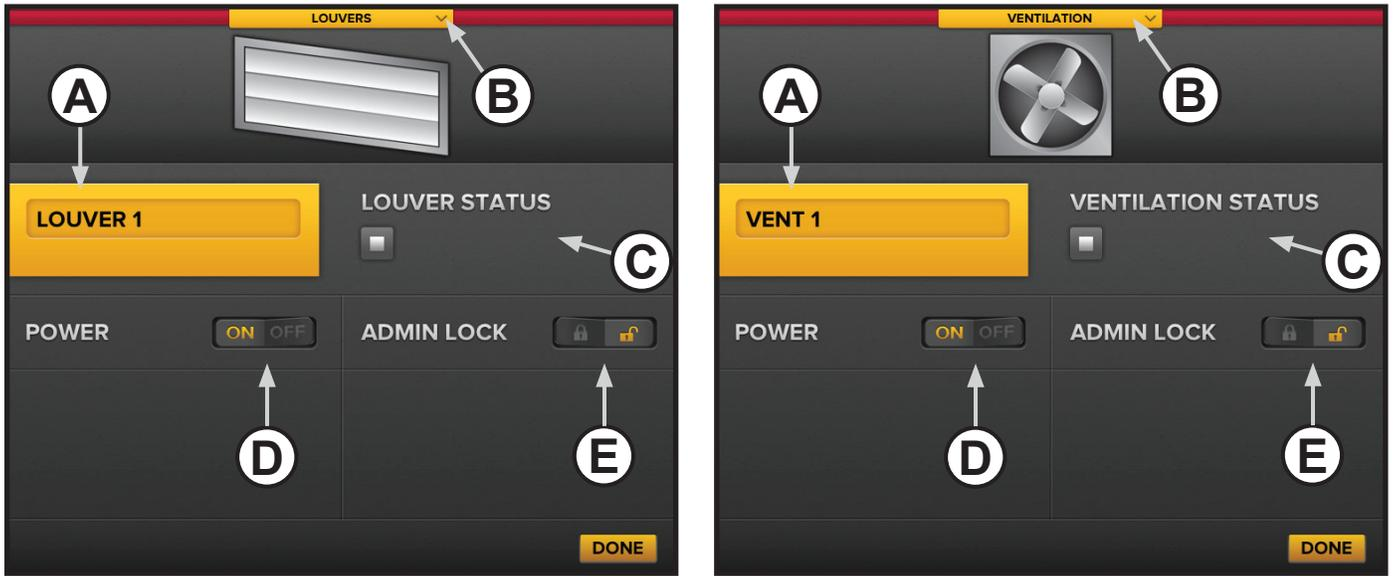

Figure 15–Louver and vent settings pages
3. Select the louver or vent. The louver or vent settings page appears (Figure 15).
4. Adjust the settings as necessary, and then touch **Done**. See Figure 15 below for details.